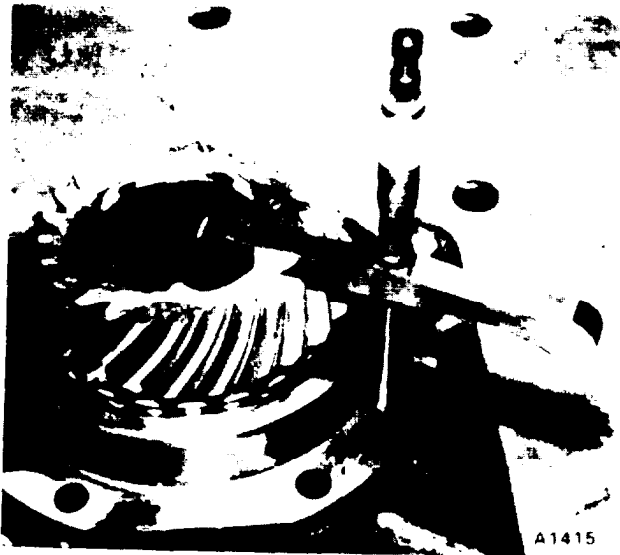

Figure 9D-9. Gear Adapter Assembly Dimension
20. Press bearing cups (29 and 34) in adapter (32) with the thin edges out.
21. Press cone (35) onto gear (37).
22. Install gear (37) into adapter (32)
23. Install cone (28), washer (27), lockwasher (26) and nut (25) onto the gear.
25. Using a height gauge, measure the distance between the face of the spiral bevel gear and the face of the adapter (see Figure 9D-9).
26. Determine the housing dimension by examining the input housing (see Figure 9D-10).